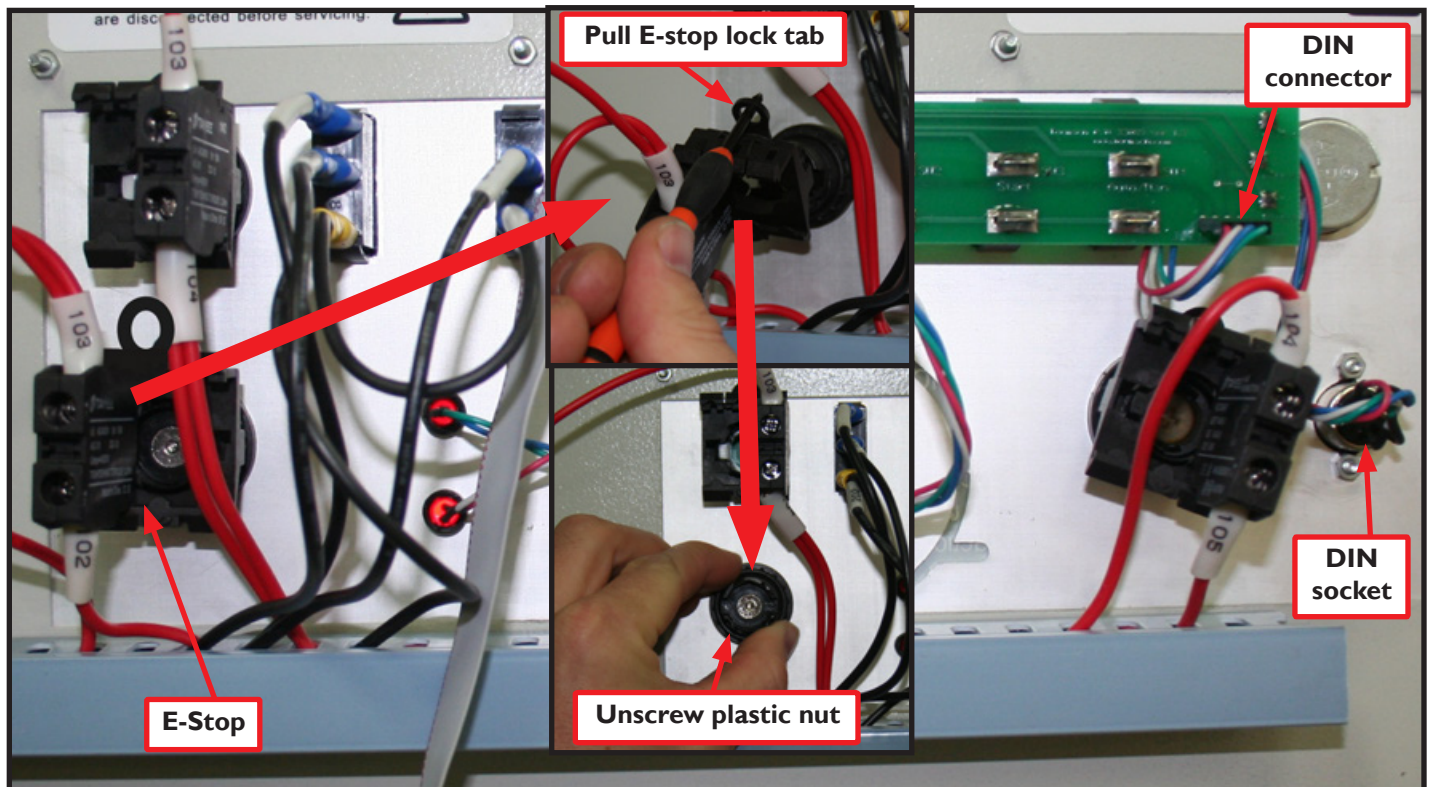

Figure 2
2. Unplug the DIN connector; unscrew and remove the DIN socket (see **Figure 2**).
3. Using a small screwdriver, pull up on the E-stop lock tab to release the E-stop switch (see **Figure 2**). Unscrew the plastic nut holding the E-stop to the panel.